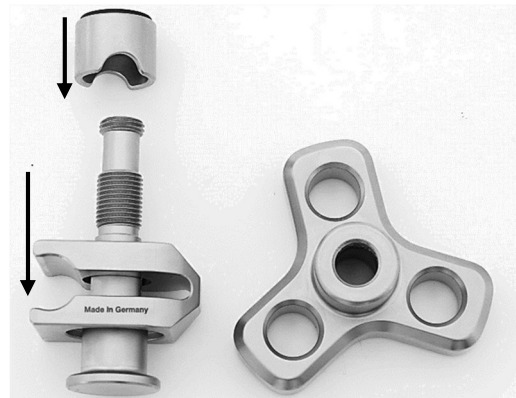

Fig. 6
As illustrated in Figure 6, first insert the clamping piece (3) and then the clamping sleeve (2) over the threaded rod (4). Please observe the following note!